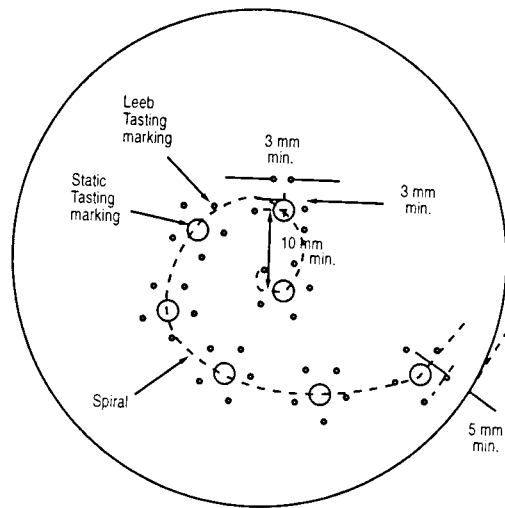

Figure 12.1.
1. Test points should be selected on the spiral shown in figure 12.1, additionally, the following requirements must be met: